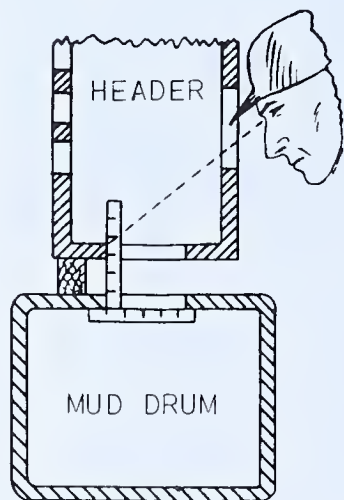

FIG. 471 — *Measuring for Nipple Length*
3. Measure the length of each nipple as shown in Fig. 471.